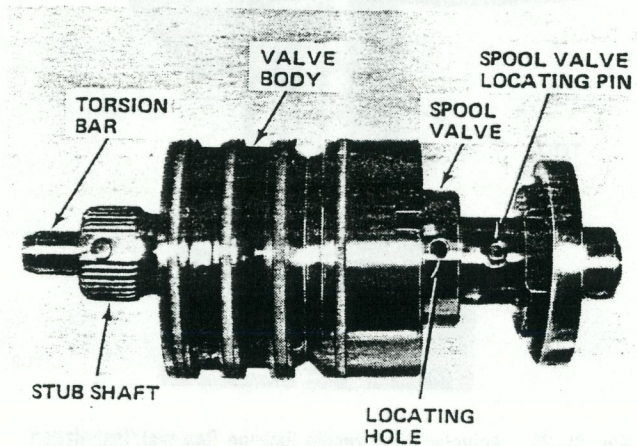

Fig. 2L-29 Valve Body and Spool Valve Disassembly
(5) Remove spool valve from valve body using a push and turn motion. If spool valve becomes cocked, carefully realign valve and try removal again. Do not force spool valve out.
(6) Remove and discard spool valve damper O-ring.
(7) Cut and remove valve body seal rings and backup O-rings (fig. 2L-27). Discard all rings.